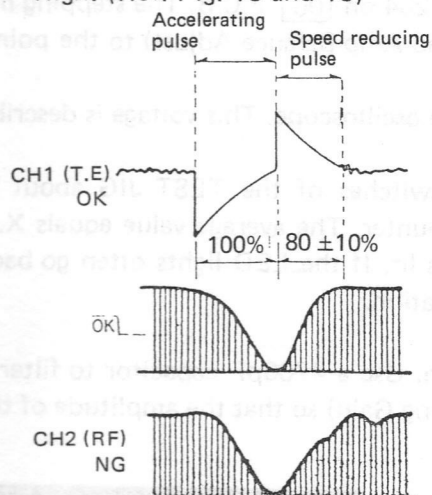

Fig. 15
Step 2 Watching the waveform of CH1, adjust VR106 (Kick Pulse Brake Adjust) so that the speed reducing pulse width is $80 \pm 10\%$ of the accelerating pulse width. (Ref. Fig. 15 and 16)
Step 3 Watching the waveform of CH2, adjust VR105 (Kick Pulse Voltage Adjust) so that the shoulder (o-mark) of depression of the RF signal is clear and the wave peak value is high. (Ref. Fig. 15 and 16)